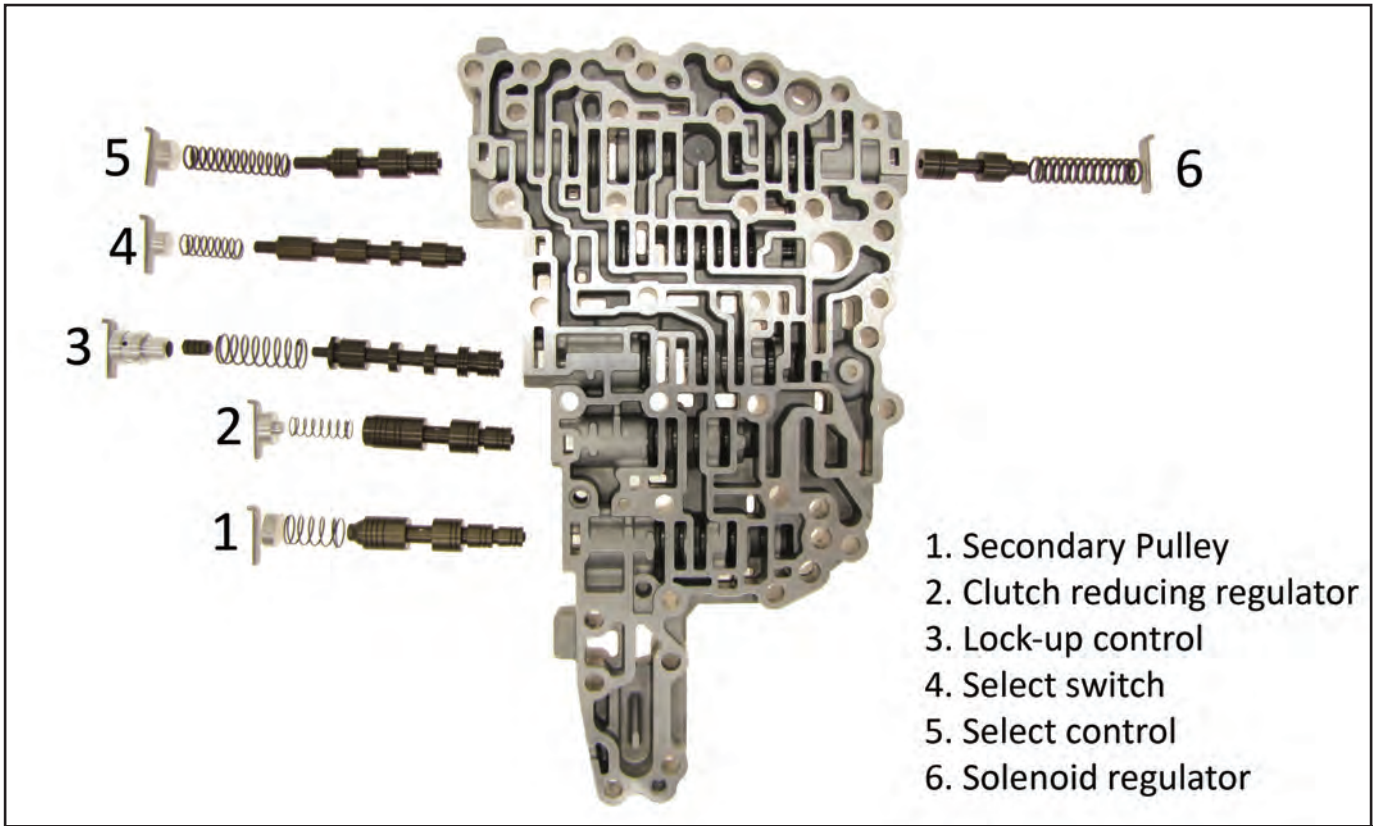

Figure 2
- TCC control solenoid Valves (figure 2, pg. 14)
Check the lockup control valve and sleeve (figure 2, pg. 14). This is where most problems occur. The sleeve tends to wear and the valve sticks in the sleeve. There are aftermarket solutions available to replace this valve and sleeve.